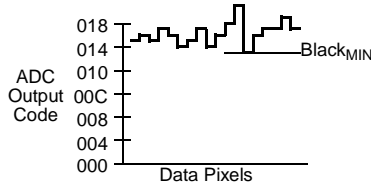

Figure 8: Finding Black_{MIN}
- Find the minimum pixel value of the scanned black image (Black_{MIN}) for each color (Figure 8).